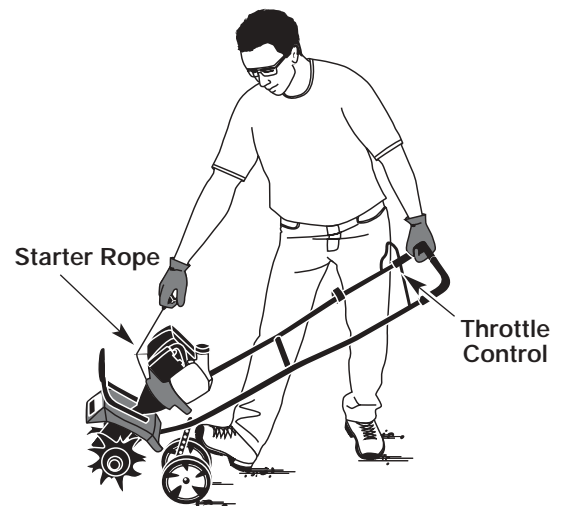

Fig. 12
**WARNING:** Avoid accidental starting. Make sure you are in the starting position when pulling the starter rope (Fig. 12). To avoid serious injury, the operator and unit must be in a stable position while starting.
4. Hold the handlebar with one hand and grab the starter rope with your other hand. Use your foot to hold down the cultivator (Fig. 12).
5. With the unit in the starting position, **do not squeeze the throttle control** (Fig. 12). Pull the starter rope out a short distance, until you feel some resistance. This is usually around 2-4 inches. Then pull the rope smoothly and briskly. Repeat this 5 times.